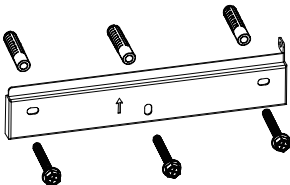

Fig. 2.2 Wall mounted inverter
- 1 Select the mounting height of the support and mark the mounting holes according to Figure 2.2. For brick walls, the holes must be drilled for expansion bolts.